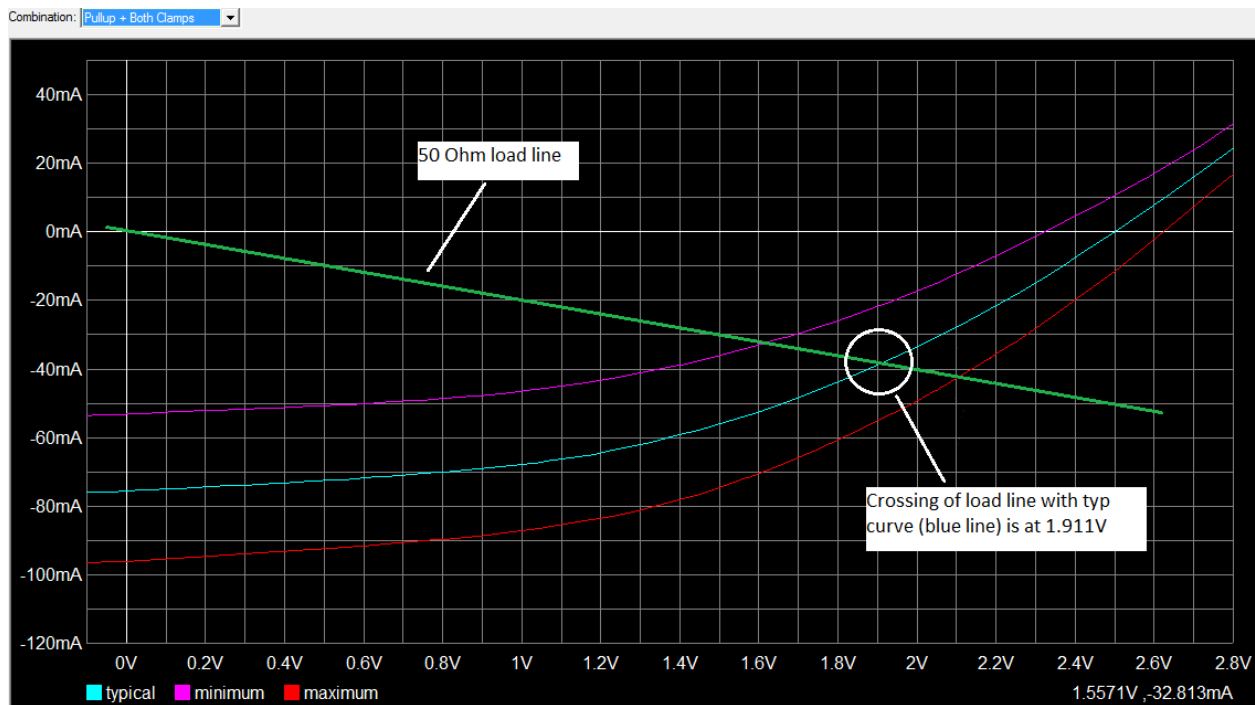
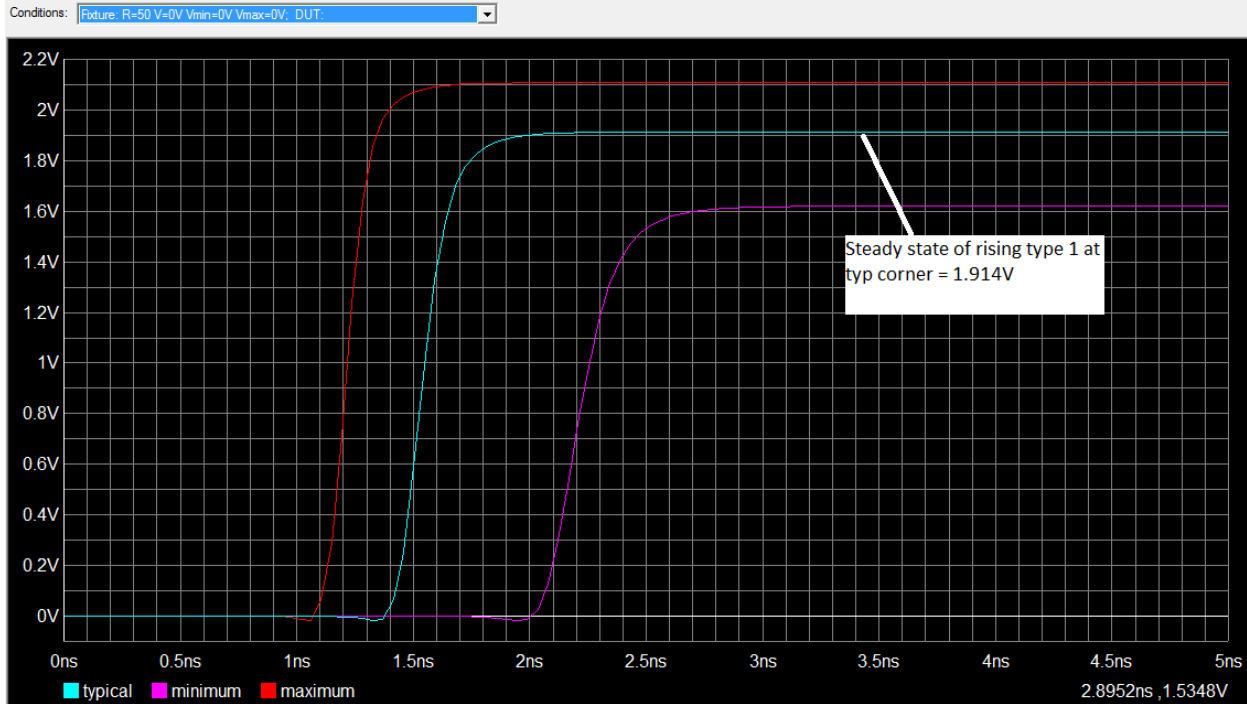

Figure 4-1. Crossing of 50 Ohm load line with the typical Pullup + Both Clamps curve
Figure 4-2. Steady state voltage of the typical rising characteristics with $V_{\text{fixture}} = 0V$
- As shown in Figure 4-1, the crossing of the 50 load line with the typical Pullup + Both Clamps curve (blue line) = 1.9111V has no significant difference from the steady state of the rising characteristic type 1 = 1.914V in Figure 4-2